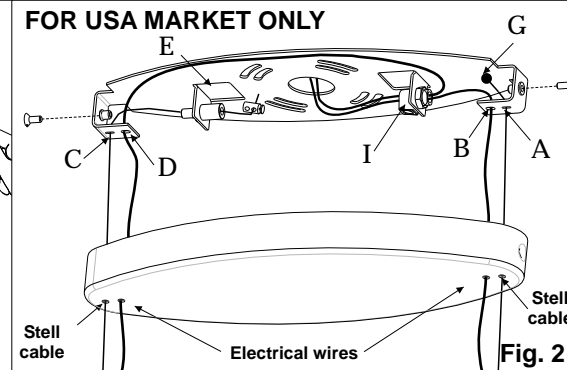
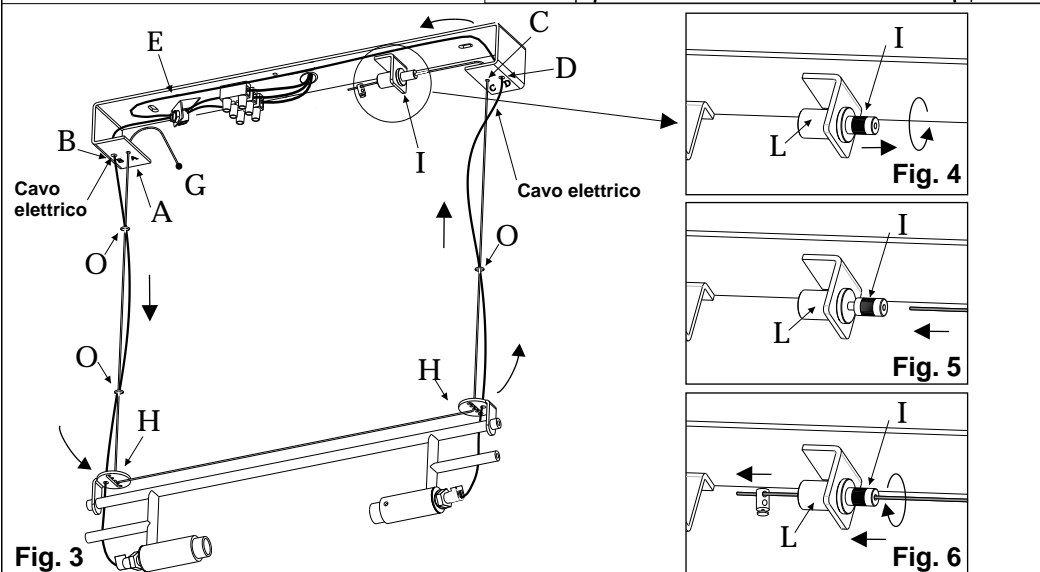

Fig. 2
Fig. 3
- Remove (2) canopy mounting screws with star washers and slide canopy down fixture wires about 1' away from J-Box (for USA only) cover/fixture mounting plate.
- Uncoil suspension cable (be careful not to kink cable) & feed through hole "A", on left, (opposite side of wire fastener "I") until rubber end "G" reaches hole "A", as shown in Fig.3 (for USA Fig.2) - (on left side of fixture). Run cable through adjacent hole "A" in canopy and run through all rubber o-ring "O" along adjacent fixture wire as shown in fig.3 (for USA Fig.2).
- Run cable down through suspension/leveling disc "H" on left, across fixture and up through disc "H" on right fig.3.
- Run cable up through all rubber o-rings on right fixture wire, through canopy and through hole "C" on right as shown in fig.3. (for USA Fig. 2).
- Srotolare la matassa del cavetto d'acciaio "G" e infilarlo nel foro "A" dalla parte della morsettiere come descritto in **Fig.3**. Infilare uno o due anellini "O" e proseguire l'operazione infilando la cima del cavetto attraverso le feritoie a pettine delle due squadrette "H" **Fig.3**. Infilare nuovamente uno o due anellini e far entrare la cima attraverso il secondo foro "C" **Fig.3**.